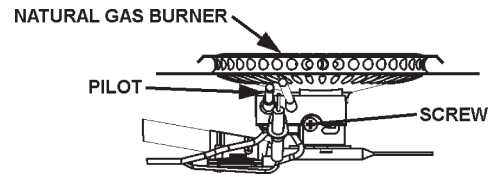

FIGURE 16.
- Remove the Phillips-head screw holding the pilot bracket to the burner head, see Figure 16.